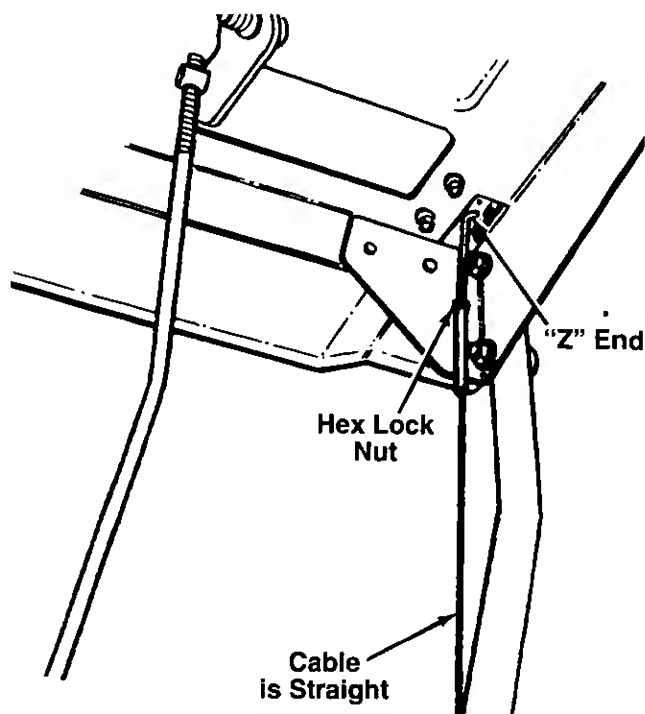

FIGURE 9.
3. Thread the cable onto the threaded portion of the "Z" end until there is no slack in the cable, but the **cable is NOT tight. Do not overtighten cable.** See figure 9.
If necessary, loosen the hex lock nut and thread the cable in (for less slack) or out (for more slack) as necessary. Refer to figure 9. Recheck the adjustment. Tighten the lock nut against the cable when correct adjustment is reached.